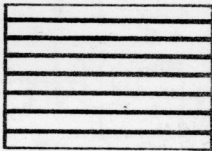
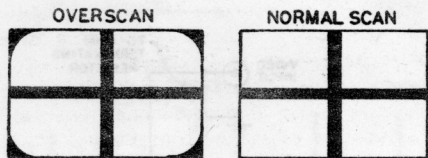

Fig. 7
Fig. 8
15. Now transfer to a standard test pattern and adjust vertical height and linearity the same as you would on a TV receiver. (In place of a standard test pattern a homemade pattern similar to the one shown in fig. 7 will be found to serve the purpose. Adjust the height and linearity controls until all bars are the same size.) When making these adjustments always keep in mind that maximum sweep should be used without overscanning the target. See fig. 8.
16. Next adjust horizontal width and linearity in the same manner. (If using the homemade pattern similar to fig. 7, turn it so the bars will be vertical instead of horizontal.)